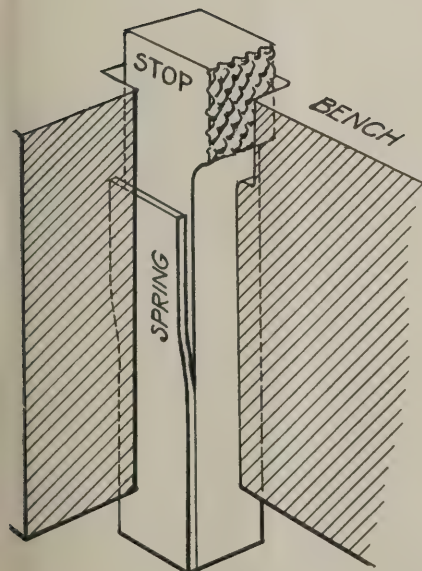

Fig. 2
R. K. S. sends a sketch of a stop which he has used, and which was suggested by a blacksmith who had made them before. "Along the bench there are a number of square holes for receiving the stop and each hole is provided with the shoulder shown in the sketch, Figure 2. The stop is a square forged steel piece with the face filed. The spring strip is welded to the shank."